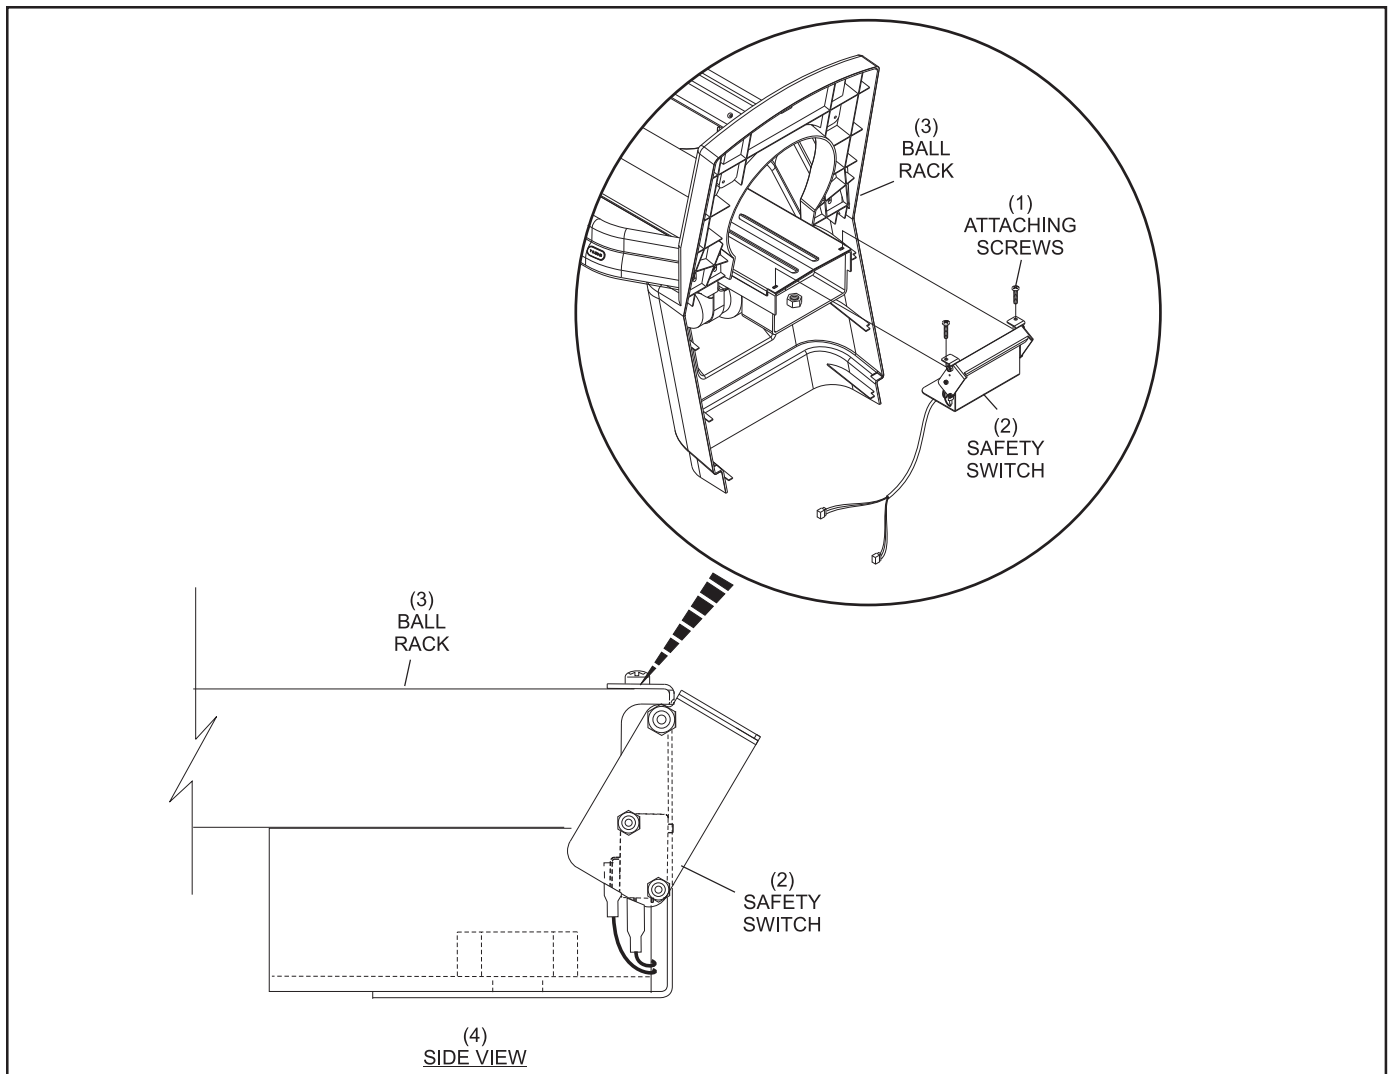

Figure 2. Install Safety Switch
- a. Remove the backing paper from the rubber spacer and install it on the inner lower surface of the clamp. Refer to *Figure 2*.
- b. Install the blower motor hose on the motor and on the air vent at the rear of the ball rack. Secure the hose to the blower motor with a tie-wrap. Refer to *Figure 2*.
- c. Place the lower and upper sections of the clamp on the blower motor assembly, align the mounting holes of the clamp with those in the ball rack frame. Secure the blower motor assembly to the frame with two 1/4-20 x 3/4" long hex head screws and two 1/4" lockwashers. Refer to *Figure 2*.
4. Position the two ball track extrusions on the ball rack and secure them with twelve #10-24 x 1/2" flat head self-tapping screws. Refer to *Figure 2*.
5. Snap the wear strips into the grooves of the ball tracks. Refer to *Figure 2*.
6. Position the right hand and left hand exit tracks on the ball rack and secure each one with one #10-16 x 5/8" and two #10-16 x 3/8" pan head screws. Refer to *Figure 2*.
9. Align the mounting holes in the ball rack throat with the threaded inserts in the ball rack. Secure the throat to the ball rack with the hardware listed below. Refer to *Figure 2*.
1. Attach the Frameworkx ball rack safety switch to the ball rack with two screws. Refer to *Figure 2*.